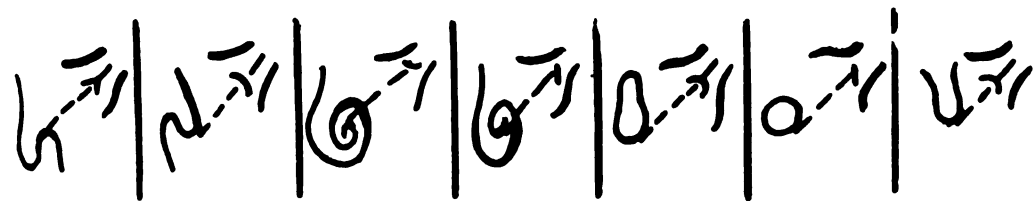

Figure 1. Placement of the reference line.
1. The next identifying feature of the fingerprint after the pattern has been determined is the number of ridges that occur between the core and the delta. To obtain the ridge count a line is drawn from the point of nearest tangency on the core through the delta. For this purpose it is most helpful to use a readymade line scribed on a piece of glass or any transparent material. This line may be shifted around until proper alignment has been achieved. Figure 1 shows the placement of the reference line on some typical patterns.